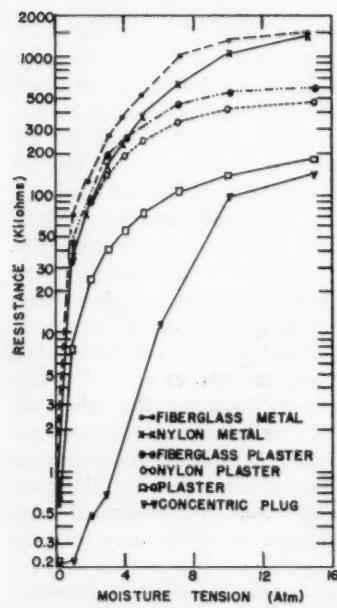

Fig. 1 Calibration curves for several resistance units for measuring soil moisture
Fig. 1 shows the calibration curve for resistance units of several different compositions and designs. Blocks designated by curve 1 were made with electrodes between two layers of fiberglass, then surrounded with a double layer of fiberglass and encased in perforated aluminum. Curve 2 represents the same kind of block, but using nylon instead of fiberglass; curve 3 represents blocks that were made with electrodes between two layers of fiberglass, then imbedded in plaster, as described by Youker and Dreibelbis (18). Curve 4 represents similar blocks except that the electrodes were inserted between two sheets of nylon imbedded in plaster; curve 5 represents plaster blocks made after the design of Bouyoucos and Mick (4). Curve 6 represents concentric electrode moisture plugs, made by Rayturn Machine Corp., Portland, Ore. The blocks of curve 1 were similar to the fiberglass block of Coleman and Hendrix (5), while those of curve 2 were patterned after the nylon block of Bouyoucos (2). The curves shown are the mean of 6 different blocks calibrated at different times, some of the points